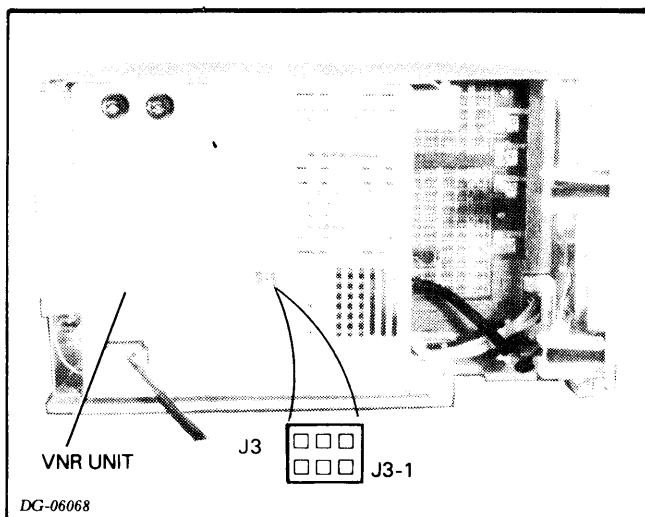

Figure 6.9 JACK3
- b. Check the **BAT+** voltage at jack J3-1 (see Figure 6.9).
- If **BAT+** is **NOT** greater than 12V, then measure the voltage **DIFFERENCE** between J3-5 and J3-6 (see Figure 6.9). If it is greater than one volt, replace the battery; otherwise, replace the VNR unit.